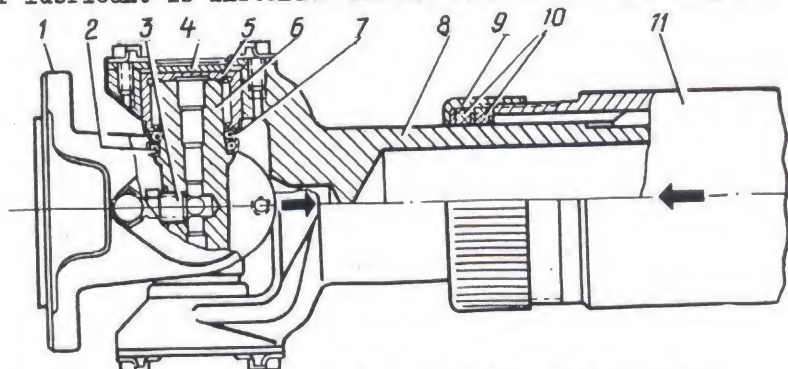

FIG. 38. PROPELLER SHAFT WITH HERMETIC UNIVERSAL JOINTS
The hermetic universal joints have neither lubrication fittings nor safety valves. Screwed into the central hole of universal-joint centre cross 6 (Fig. 38) is stopper 3. Sealing ring 7 which protects the interior of the bearings from dirt and leakage of lubricant is installed in the seat of the bearing race.
2. Bend off the lock plates, remove the bolts and tap against flange 1 (see Fig. 38) and yoke 8 with a copper hammer to drive bearings 5 off tenons of centre cross 6; then screw out stopper 3, wash bearings and centre cross oil passages in kerosene and dry them.